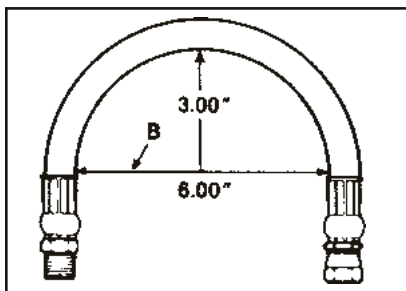

Fig.7
9. Route hose and secure to stay out of the path (swing diameter) of the transmission output yoke. (**Fig 7**)